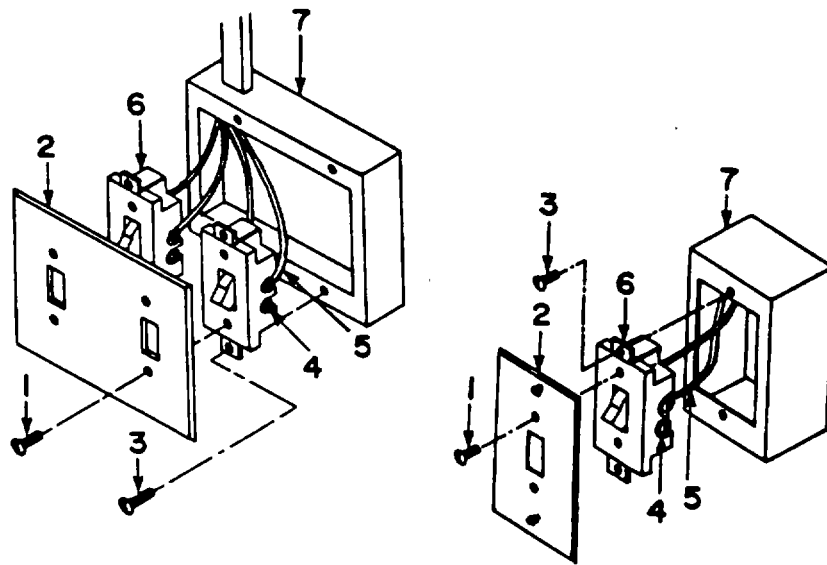

Figure 4-27. Lamp Switches
a. Inspect. (See Figure 4-27.)
(1) Inspect lamp switches on rear wall of interior shelter for proper operation, loose connections, and excessive wear.
(2) Inspect lamp switches cover on rear wall of interior shelter for secure mounting.
b. Replace. (See Figure 4-27.)
(12) Position cover (2) on box (7).
(13) Install screws (1) and tighten.
(14) Set lamp circuit breakers and/or roadside equipment receptacle breaker in main power service box to ON.